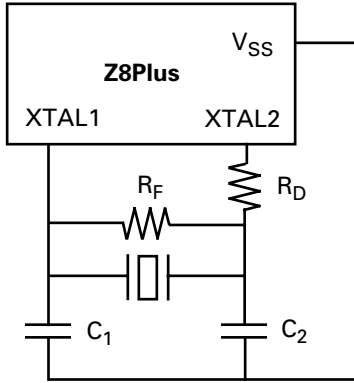
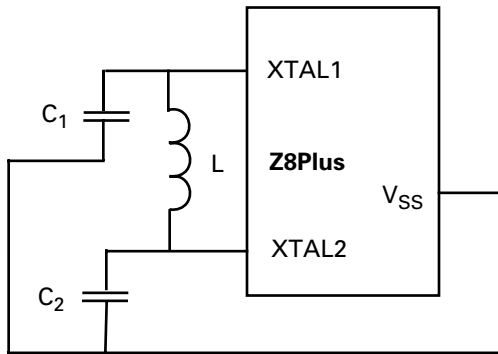
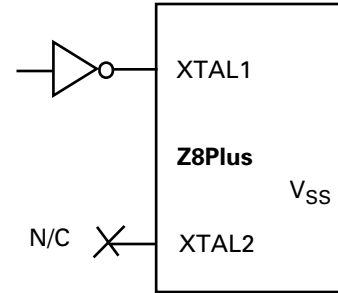

Figure 16. Crystal/Ceramic Resonator Oscillator
Figure 17. LC Clock
Figure 18. External Clock
Crystals and ceramic resonators (Figure 16) should exhibit the following characteristics to ensure proper oscillation:
Depending on the operation frequency, the oscillator may require additional capacitors,  $C_1$  and  $C_2$ , as illustrated in Figure 16 and Figure 17. The capacitance values are dependent on the manufacturer's crystal specifications.
Figure 16, Figure 17, and Figure 18 recommend that the load capacitor ground trace connect directly to the  $V_{SS}$  (GND) pin of the Z8Plus. This requirement assures that no system noise is injected into the Z8Plus clock. This trace should not be shared with any other components except at the  $V_{SS}$  pin of the Z8Plus.
The Z8Plus oscillator can use an inductor capacitor oscillator (LC) network to generate an XTAL clock (Figure 17).